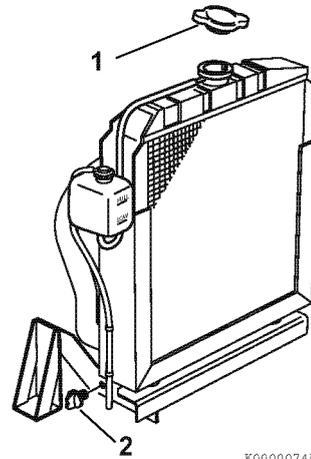

Figure 8-4
2. Remove the radiator cap (1, **Figure 8-4**).
3. Remove the drain plug or open the drain valve (2, **Figure 8-4**) at the lower portion of the radiator and drain the coolant.